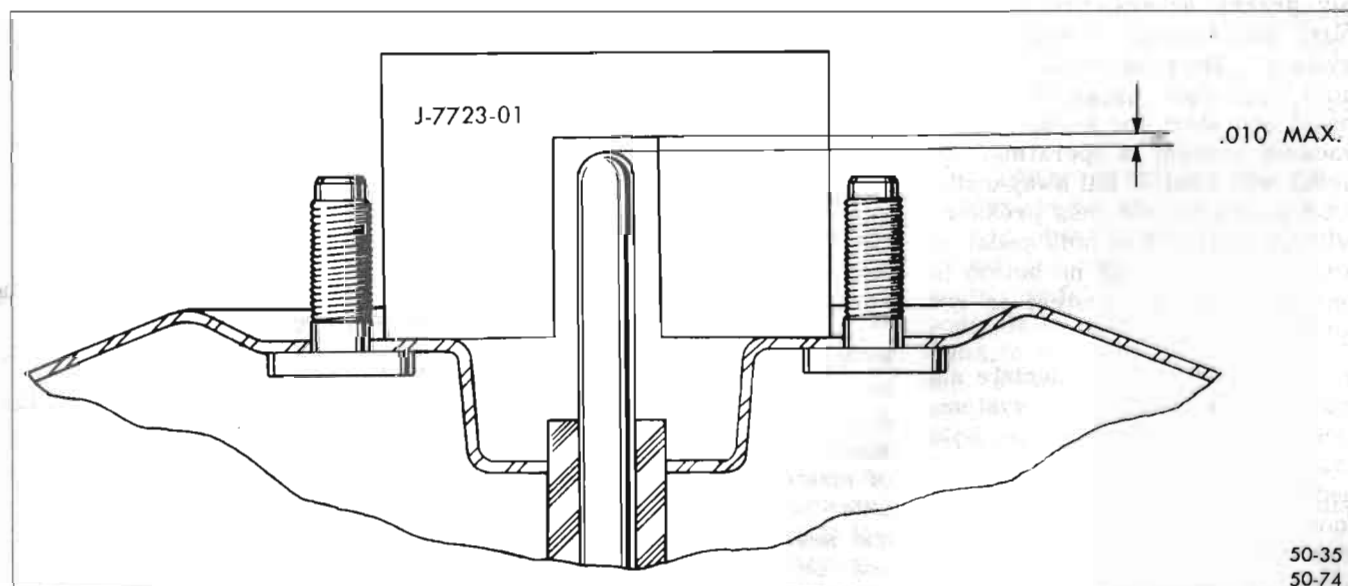

Figure 50-74—Gaging Master Cylinder Push Rod
2. Place Gage J-7723-01 over the piston rod so that it fits between the two studs on the front housing. It should be parallel to the studs and resting on the surface of the housing. The cutout portion of the gage should never be lower than the end of the piston rod and the gap between the cutout in the gage and the end of the piston rod should never be more than .010 inch. See Figure 50-74.